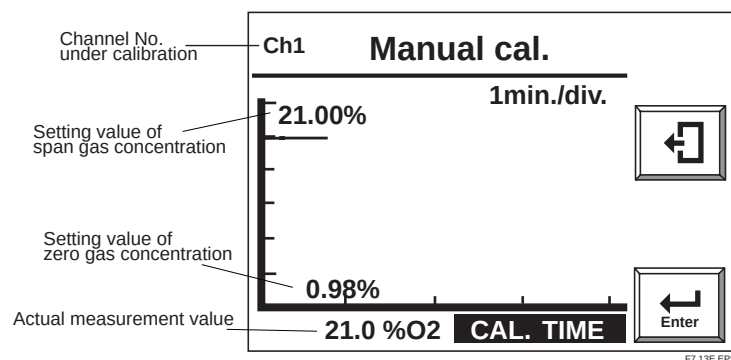

Fig 7.13 Display during calibration
- 9) Select [Valve opened (Start Calibration)] and touch the [Enter] key. An oxygen concentration graph like Fig. 7.13 is displayed, and [CAL.TIME] status mark flashes. Wait for the graph measured value trace to stabilize. Calibration has not yet been performed, so it is not a problem if the displayed value is different from the correct value of span gas concentration.